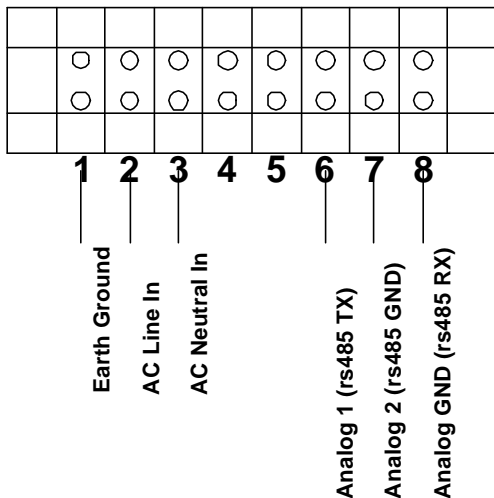

Figure 6.
**TB-1 Power Wiring:** The IR-SNIF-1,2,3 monitor is designed to operate on only 110 or 240 vac, but not both. It will operate on either 50 or 60 hz. The power supply in the monitor automatically detects the supply voltage. The diaphragm pump is designed to operate only on 110-120 vac or on 220-240 vac. Refer to figure 6 for a diagram of the terminal board.